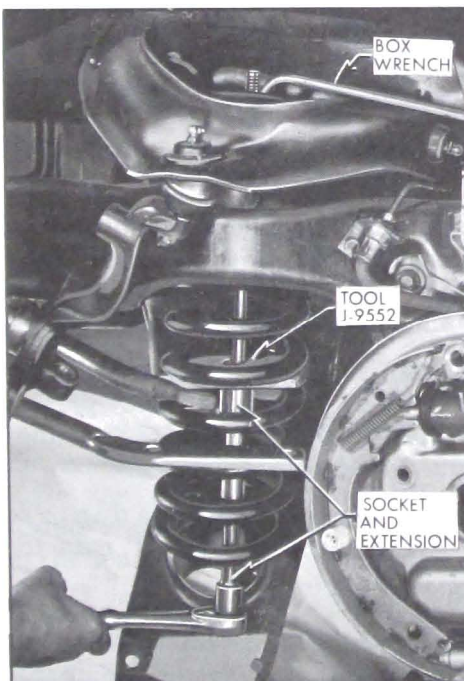

Figure 7-27—Compressing Front Spring with Tool J-9552
4. Place a box wrench on the upper nut of the tool to keep it from turning. Now tighten the bolt with a 7/8" socket and extension. See Figure 7-27.